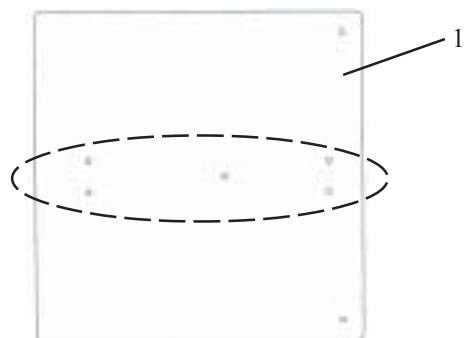
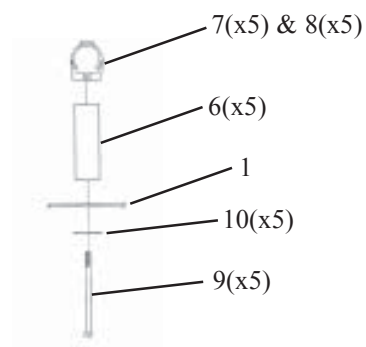

Figure 4a
Figure 4b
Diffuser Assembly - Figure 4a-e
1. Mount the five PVC Standoffs and Pipe Clamps to the Barrier in the five holes circled in Figure 4a using a hex bolt and fender washer for each as shown in Figure 4b. **DO NOT** tighten. **NOTE:** The 1/4"-20 S/S Clamp Adaptor is pressed into the Pipe Clamp for the bolt to fasten to.